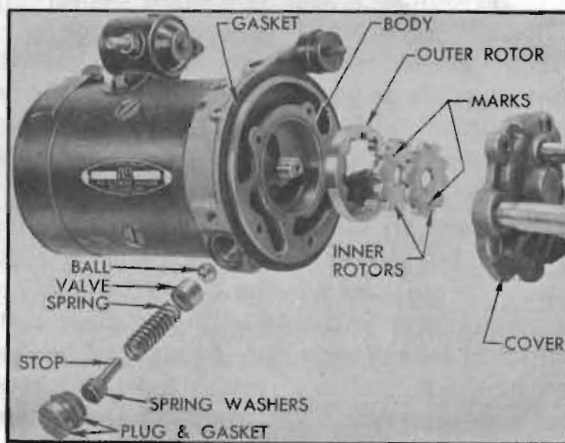

Figure 13-66—Power Unit Pump Parts—Split Rotor Type
If pump pressure is below 250 p.s.i. it may be increased by removing the pressure relief valve plug and spring stop and adding a spring washer. See figure 13-66. If pressure exceeds the safe maximum of 260 p.s.i. a spring washer should be removed. *Under no circumstance should the valve be set to provide pressure in excess of 260 p.s.i.*
The pump on the first type power unit uses a 4-lobe inner (driving) rotor and a 5-lobe outer (driven) rotor. The pump on the second type power unit uses a 10-lobe inner rotor and an 11-lobe outer rotor. At start of production of the second type rotors the inner rotor was one piece; later, the inner rotor was changed to a split or 2-piece construction as shown in figure 13-66. Power units having the split rotor have a blue paint mark on the upper end for identification.
3. Remove pump cover which is attached to body by five screws and lockwashers. See figure 13-66.
5. Remove pressure valve plug and gasket, stop, spring washers, spring, valve and ball from pump body. See figure 13-66. It may be necessary to use the bent end of a stiff wire to remove the valve, which is a close fit in the body.
4. When installing the split type inner rotor, place the piece with the round hole in position first, with the marked surface *outward*. Place the piece with the "D" shaped hole over end of armature shaft with marked surface *outward*, then turn so that the marks on both pieces are 180 degrees apart when pieces are meshed with the outer rotor. See figure 13-66.